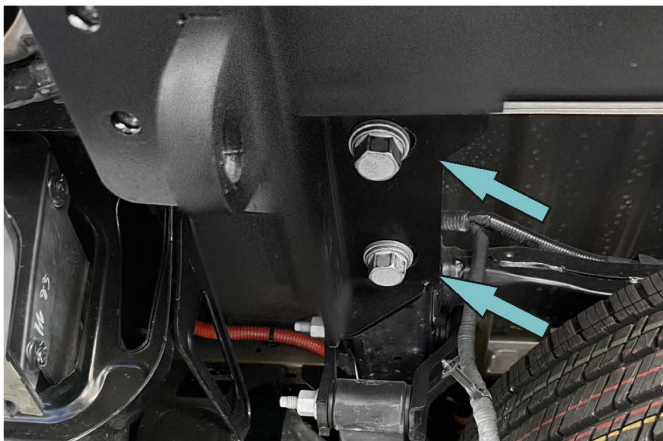

Fig. 15
15. Install bracket (item 2) on the vehicle, using OE bolts M14 as shown in fig.15.